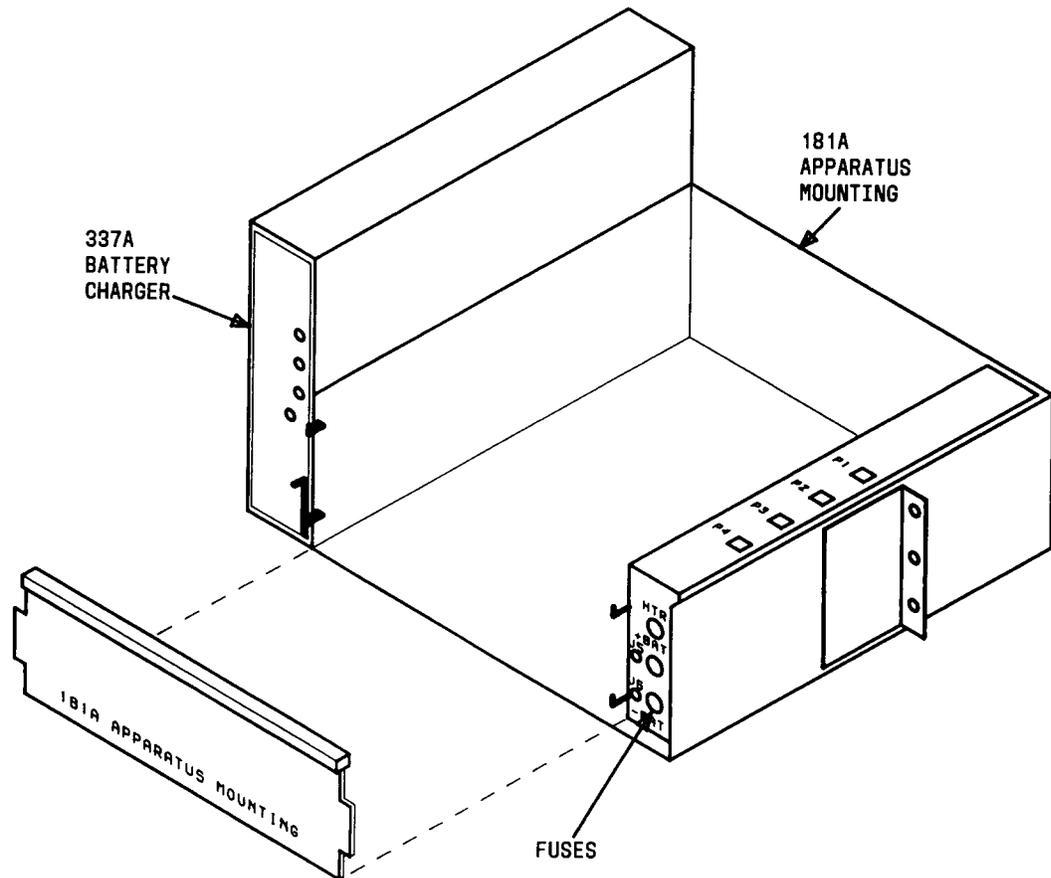

Fig. 2—Battery Shelf
3. Insert 337A BATTERY CHARGER into slot located on left side of battery shelf (Figure 2) and press HIGH RATE CHG/ACTIVATE button on BATTERY CHARGER.
23. Insert **337A BATTERY CHARGER** into slot located on left side of battery shelf (Figure 2) and press **HIGH RATE CHG/ACTIVATE** button on **BATTERY CHARGER**.